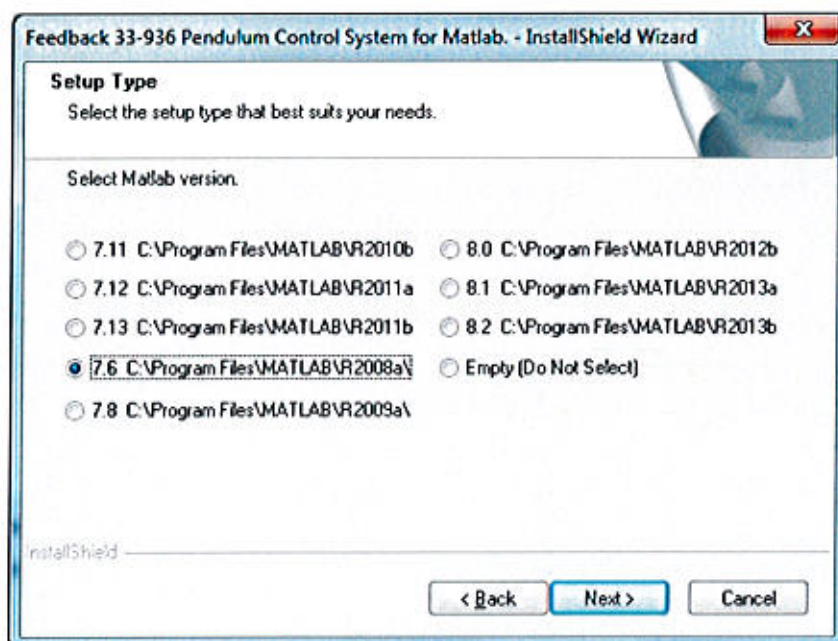

Figure 20 Matlab version choice window
4. The Matlab version choice window will appear (Figure 20).